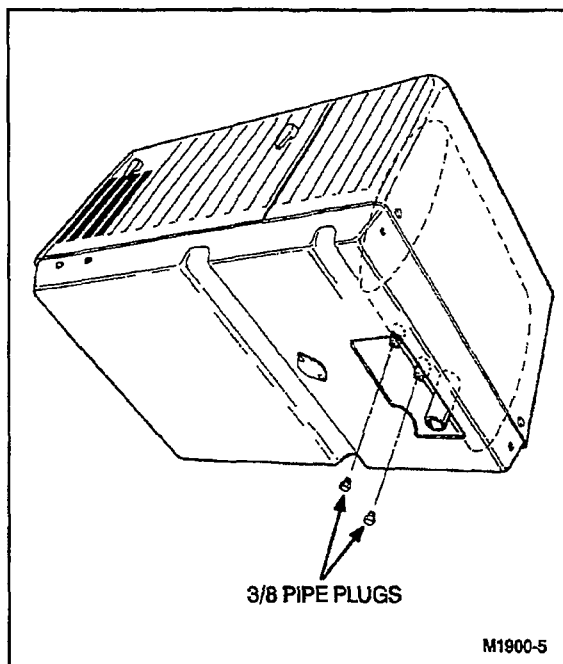

FIGURE 14. SPARK ARRESTER CLEANING
1. Remove the 3/8 inch pipe plugs from the bottom of the muffler (Figure 14).